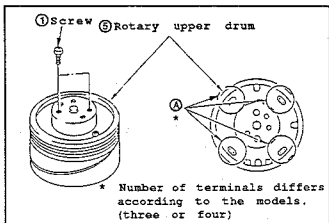
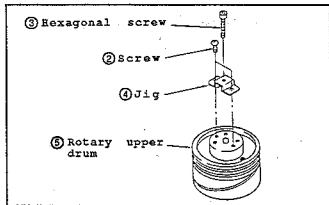

Fig.II-27
Fig.II-28
- (1) Unsolder three solderings ③. Then, confirm that the terminals which come out from the hole of C.B.A. can be moved freely. (Fig.II-27)
- (2) Remove the two setscrews ①.
- (3) Secure the jig ④ to the drum with the two setscrews ②. (Setscrews supplied with jig ④ as a set.) Then, screw in the hexagonal bolt ③ into the hole of jig ④ to dismount the rotary upper drum ⑤. (Fig.II-28)
- (3) Pull out the jig ⑦, and then push the rotary upper drum ⑤ into the lower one manually and gently. If it cannot be set completely to the bottom, Tighten the two setscrews ① alternately and temporarily. (Fig.II-27)
- (4) Insert the jig ⑦ into the positioning holes ⑥ again. If it cannot be inserted smoothly, loosen the two setscrews ①. Then perform the step (3) of disassembling procedure.
- (5) Tighten the two setscrews ① thoroughly.
- (6) Solder the terminals ③. (Fig.II-27)